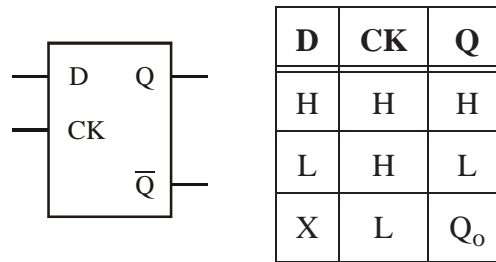

Figure 7.2 Data Latch (7475)
There are many digital circuit applications where you may need to store data for later use. One way to do this is through the use of flip-flops. The bistable data latch (see Figure 7.2) is a flip-flop that is useful in many applications. The data latch has a data input (D), a clock input (CK), and output Q. Most flip-flops include complementary outputs where \bar{Q} is the inverse of Q. With a data latch, the data input gets passed to or blocked from the output depending upon the clock signal. When CK is high, $Q=D$ (i.e., the output tracks the input). When CK is low, the D input is ignored and the last value of Q (the value of D when CK last went low) is stored (latched). This memory state of the flip-flop (when CK is low) is indicated in the truth table with Q_0 (the last value latched). The entire functionality is summarized in the truth table shown in Figure 7.2. An X in a truth table indicates that a signal value may have either value (H or L). For example, for the data latch, when CK is low, the input D has no effect on the output Q.